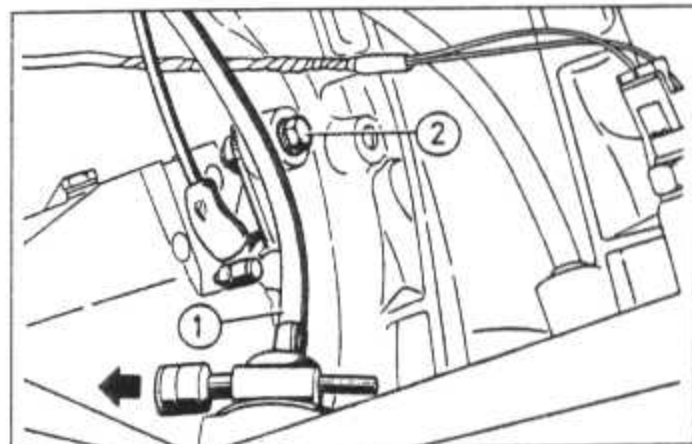

Fig. 13.46 Speedometer drive cable (1) at transmission, and crankshaft speed/position sensor bracket bolt (2) (Sec 14)
- 45 Remove the crankshaft speed/position sensor bracket (Fig. 13.46).